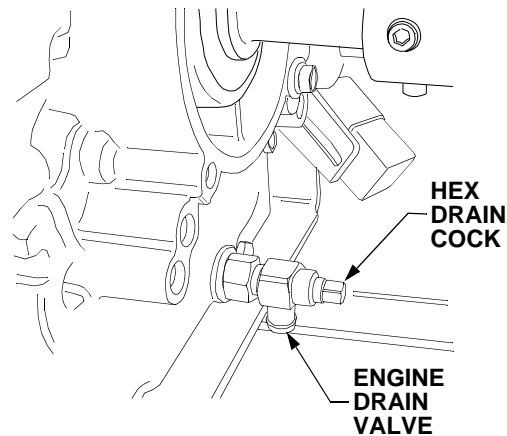

Figure 52
- Locate the engine drain valve on the rear of the engine (See Figure 52). Place a suitable container below the open end of the drain valve to collect the old oil.
- Turn the valve drain cock fully clockwise to close the valve, and clean any residual oil from the valve. Refer to Figure 52.